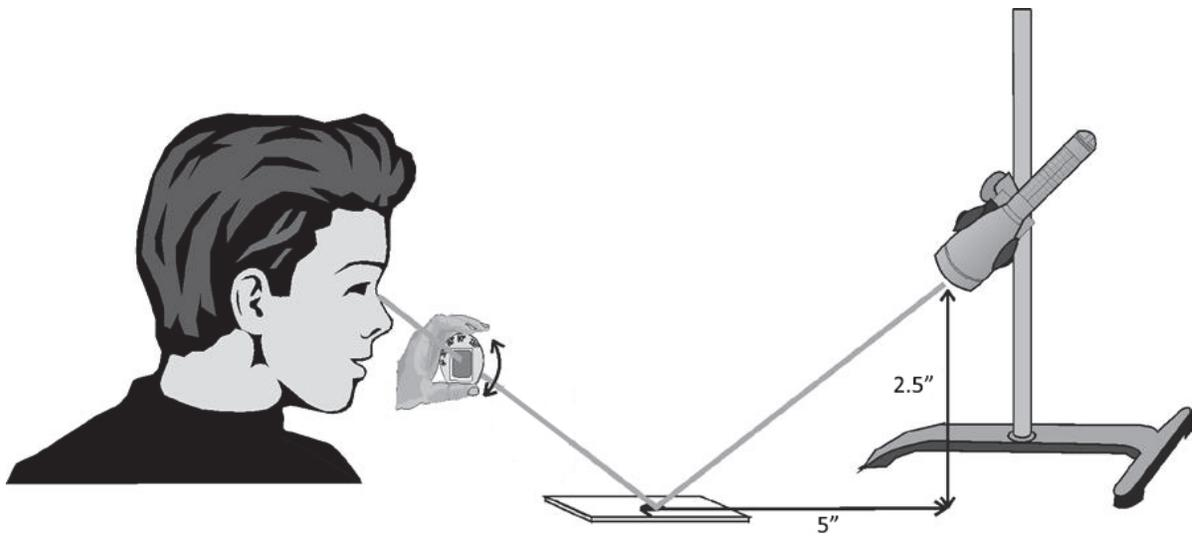

Figure 4 *Polarizer with Analyzer Illustrated*
7. Hold a 1" round glass polarizer so you can see the reflection through the filter. Rotate the filter about the axis of the reflected beam. Refer to Figure 4. What do you observe about the brightness of the reflection as you rotate the filter?